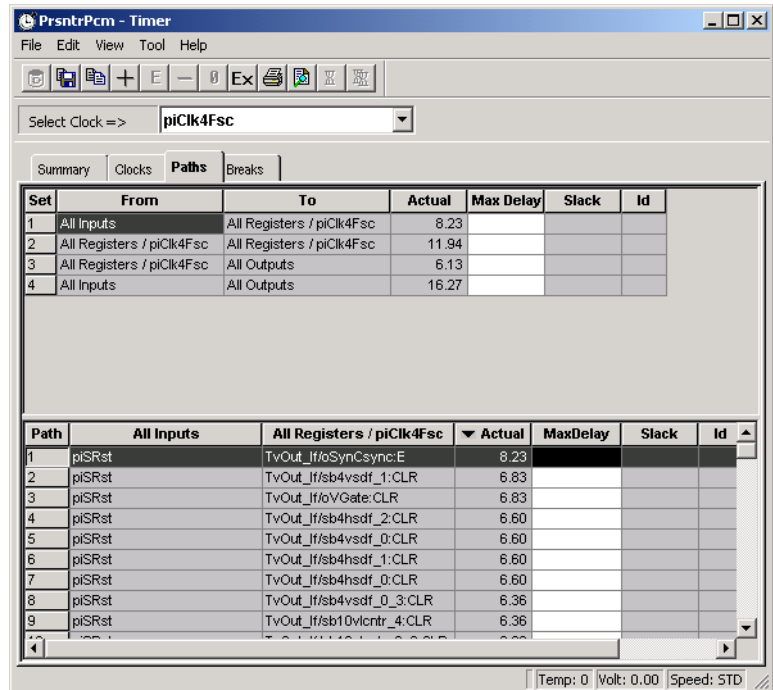

Figure 2-13. Paths Tab
3. Click the **Timer Paths** tab. The Paths tab is displayed, as shown in Figure 2-13.